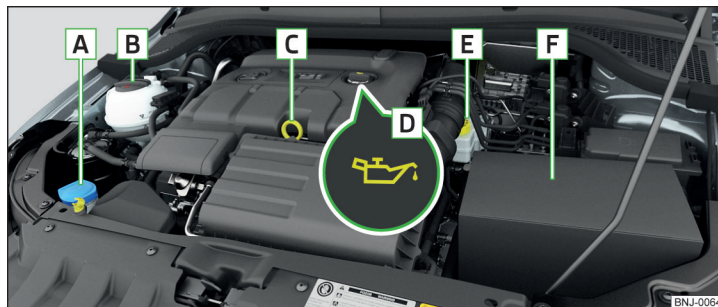

Fig. 145 Principle sketch: Engine compartment
Arrangement in the engine compartment » Fig. 145
- Unscrew the cap of the engine oil filler opening » Fig. 145 on page 152.